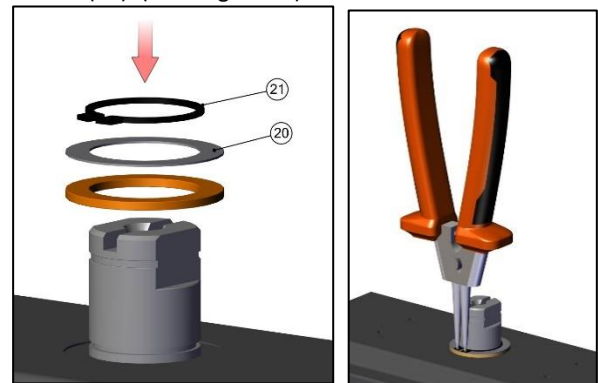

Fig no.27
- f) Place the pinion washer (20) & Circlip (21) from top of the pinion.
g) Thrust bearing rest on the body on which Circlip is placed which restrict upward movement of pinion (04). (refer fig no.27)